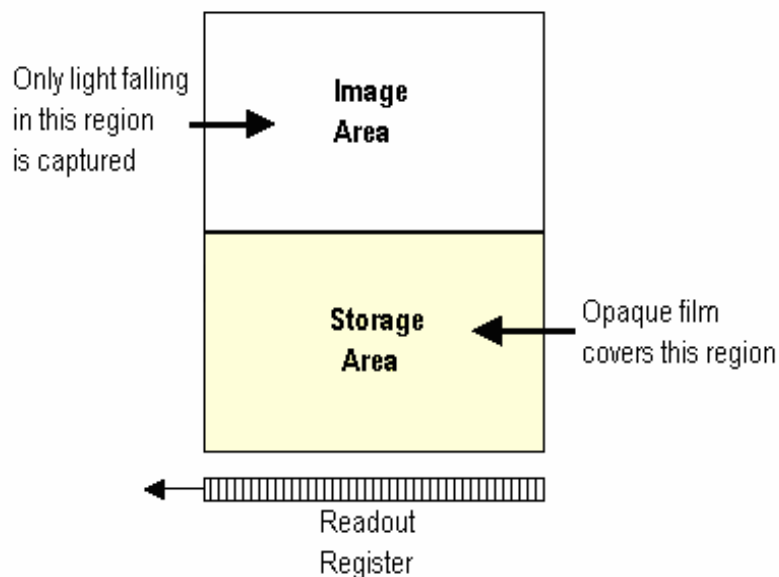

FIGURE 7 – FT CCD
- Firstly, a FT CCD contains 2 areas, of approximately equal size (see figure 7 below).